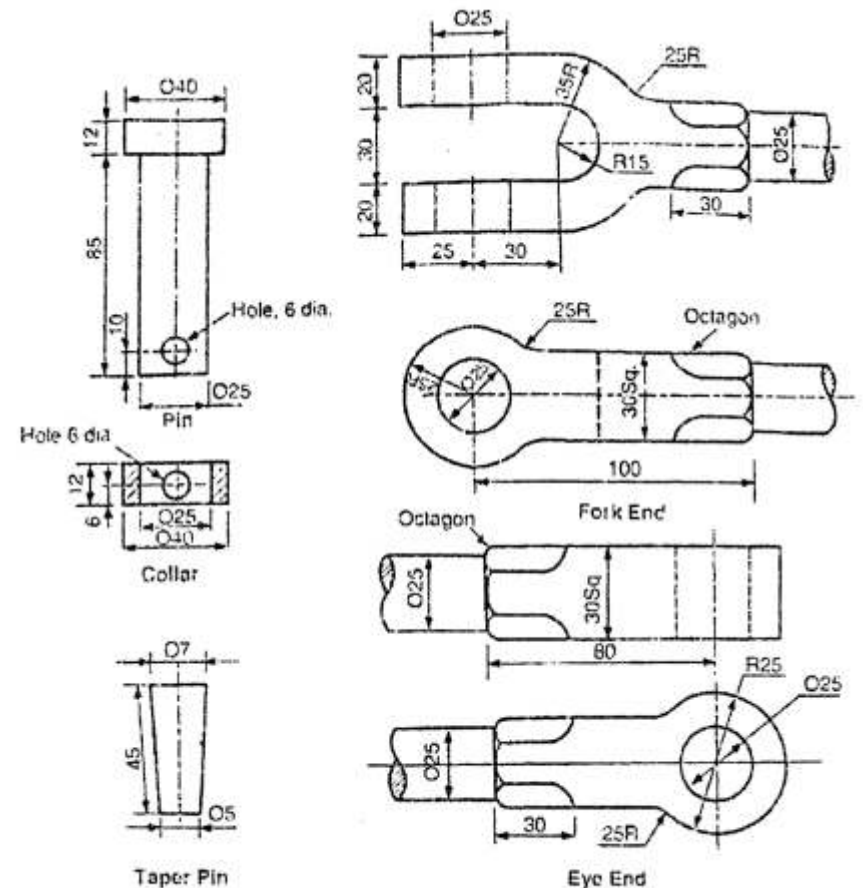

Fig. 2 : Detail Drawing of a Knuckle Joint
Q.5 Fig. 2 shows the details of knuckle joint and draw the following assembled views:- (CO-11)